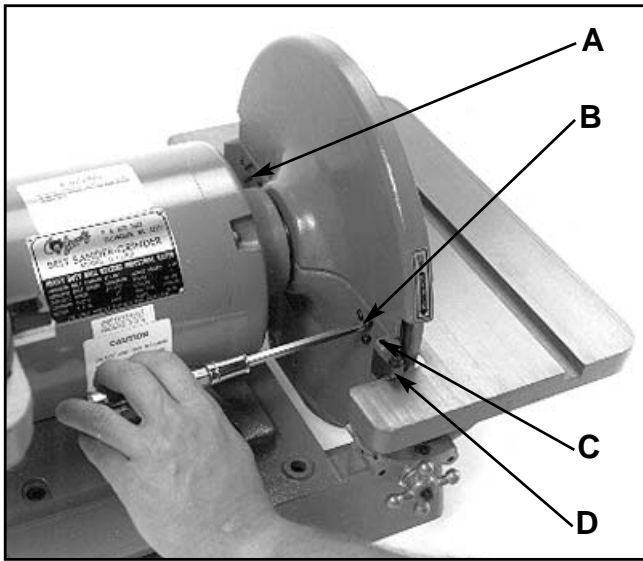

Figure 12. Adjusting disc guard.
1. Loosen the two screws (A and B) shown in **Figure 12**. These screws hold the guard in place.
2. Adjust the two vertically-aligned screws (C and D in **Figure 12**) so the guard is upright and not touching the disc. The top screw moves the guard toward the disc and the bottom screw moves it away from the disc.